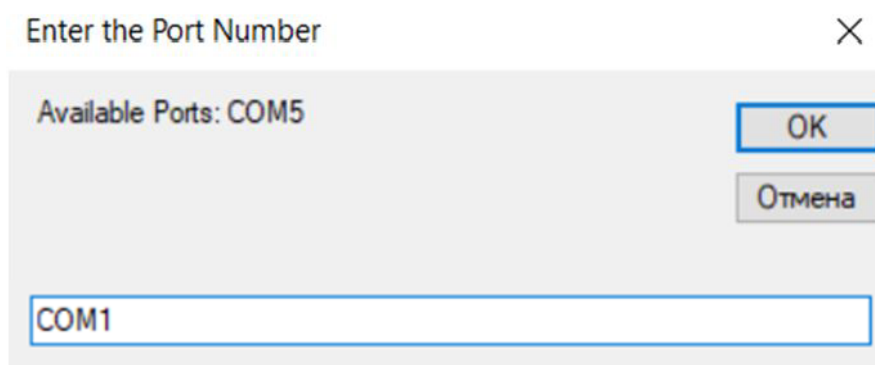

fig. 4.2. setting up the COM port
2. select in the appeared window the number of COM port from the list of available ports (Fig. 4.2) and manually enter the required number of COM port in the lower part of the window (input textbox).